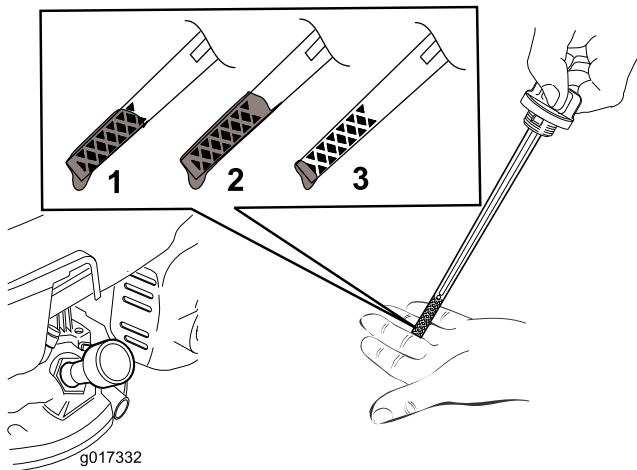

Figure 21
**Note:** Fill the engine crankcase with oil until the dipstick indicates that the engine oil level is correct as shown in (Figure 21). If you overfill the engine with oil, remove the excess oil as directed in step 5.